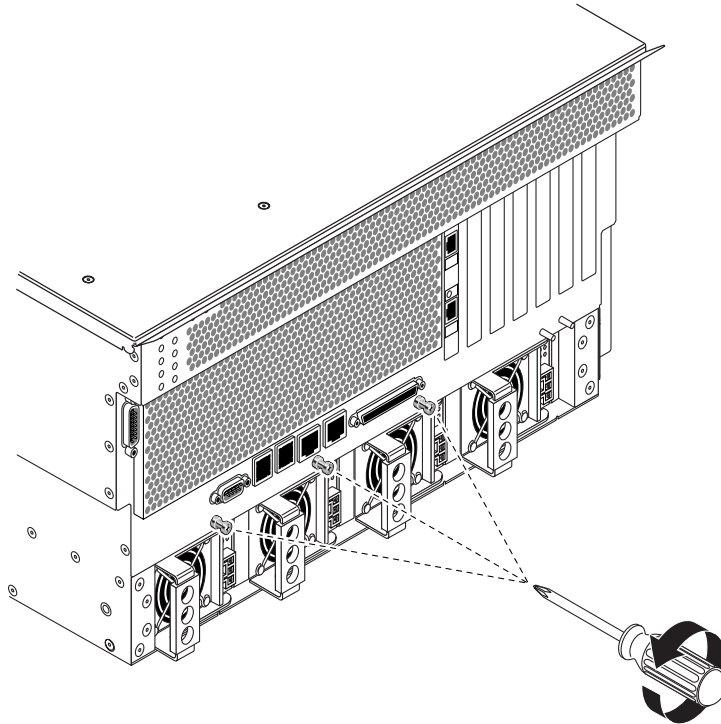

FIGURE 4-39 Unscrewing the Motherboard Screws
17. Unscrew the three Phillips No. 2 screws that secure the motherboard to back of the system (FIGURE 4-39).
4. Tighten the three Phillips No. 2 screws to secure the motherboard to the system (FIGURE 4-39).